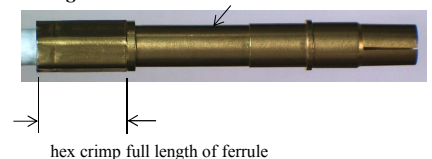

Figure 7
- 10) Remove the self-extraction sleeve from the connector prior to installing ATUM dual-wall heat shrink tubing provided. Shrink the tubing, at least partially onto the shoulder (Fig. 7), to effect a seal. Trim off excess heat shrink beyond the front side of shoulder as needed, and re-install the extraction sleeve as shown (Fig. 7).